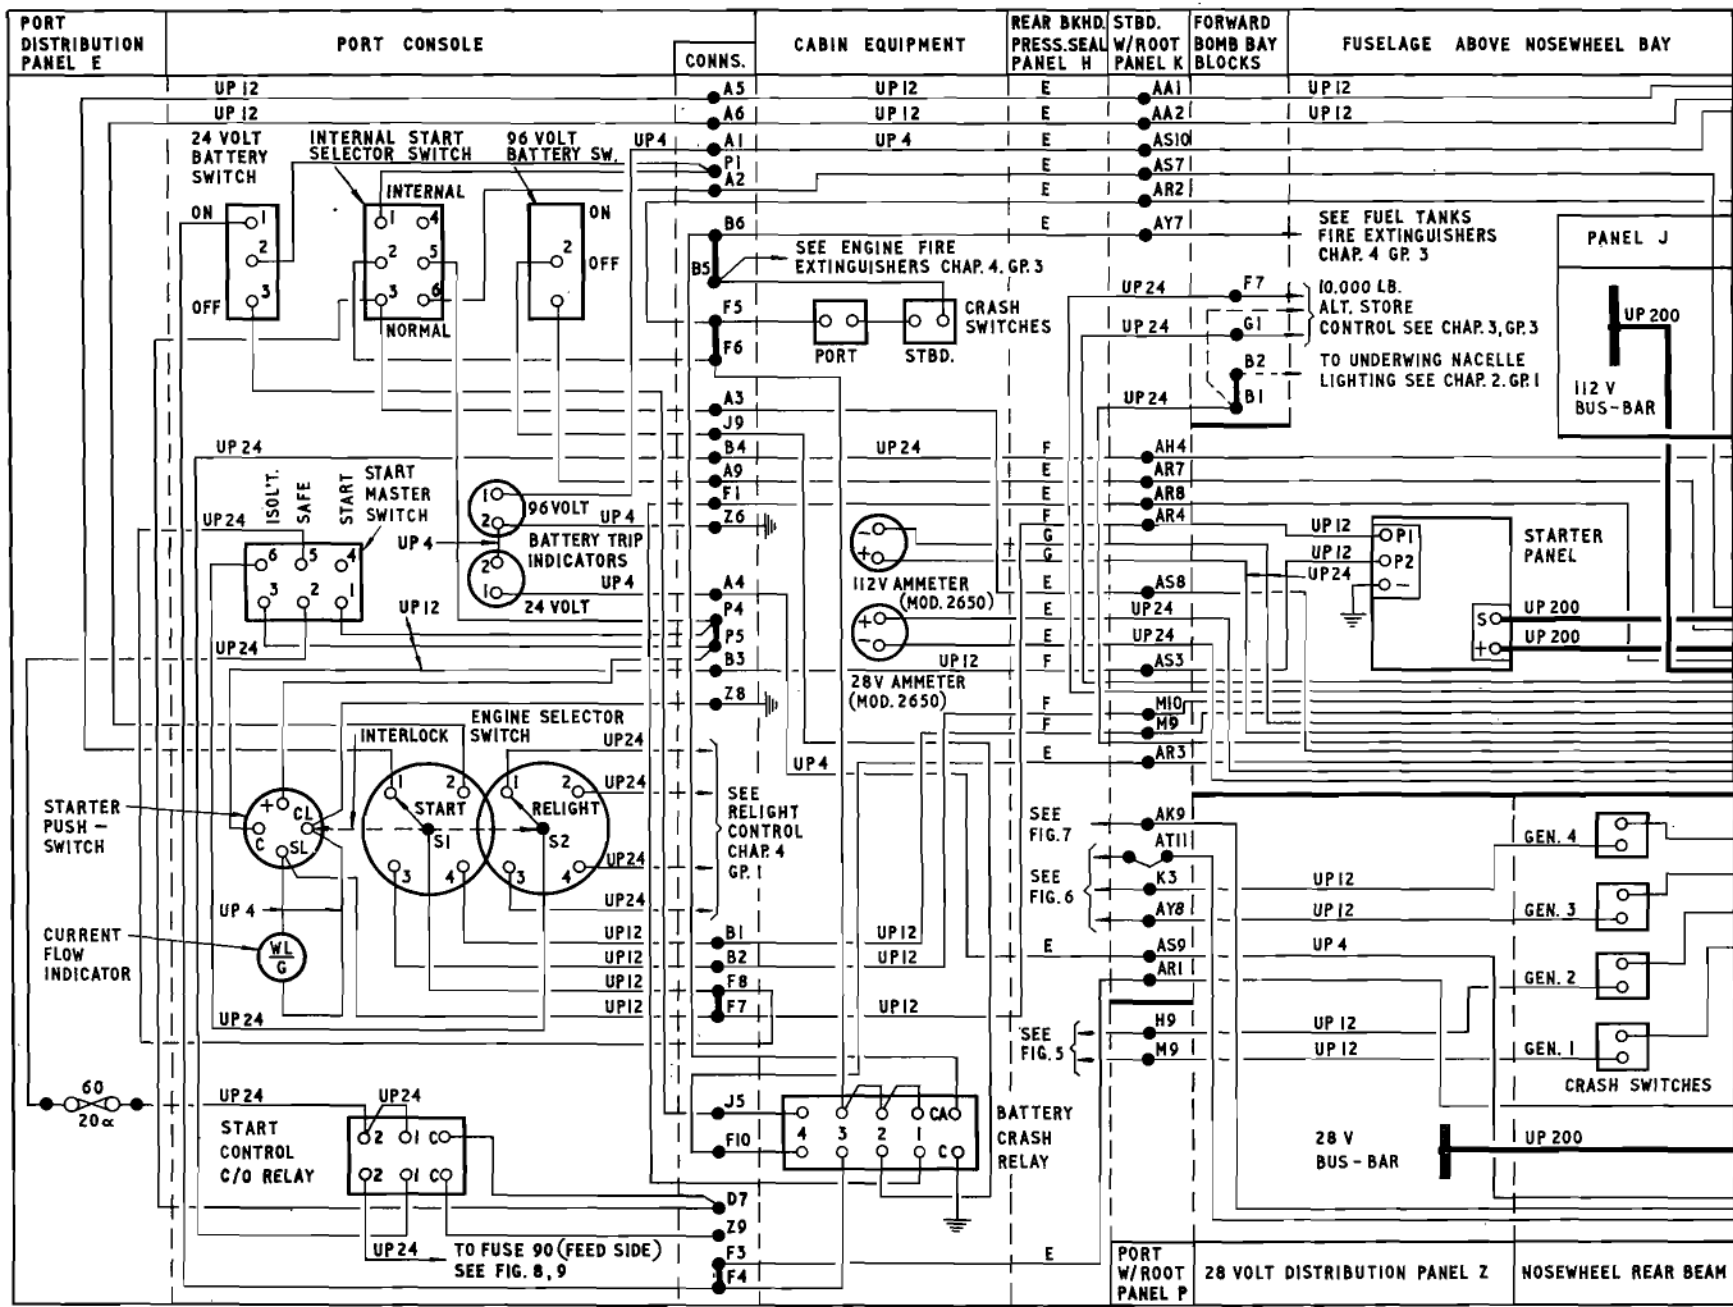

Fig 7A(l) Engine starting control (post Mods. 2650, 2833 and 2945)
1. Fig. 7A in Group 1 is amended to suit the latest issue of Mod. 2650 as shown in